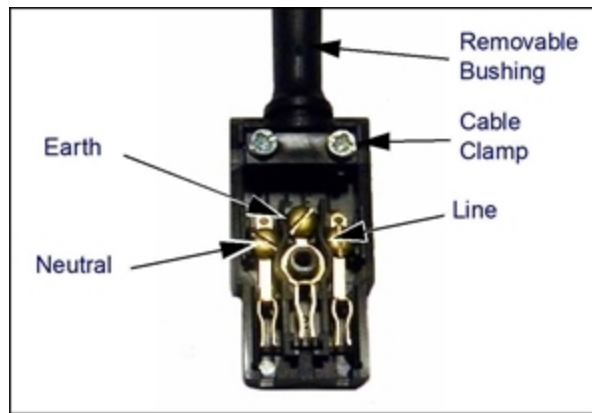

Figure 4-6. AC Power Mating Connector
3. Loosen the two screws on the cable clamp. See Figure 4-6.